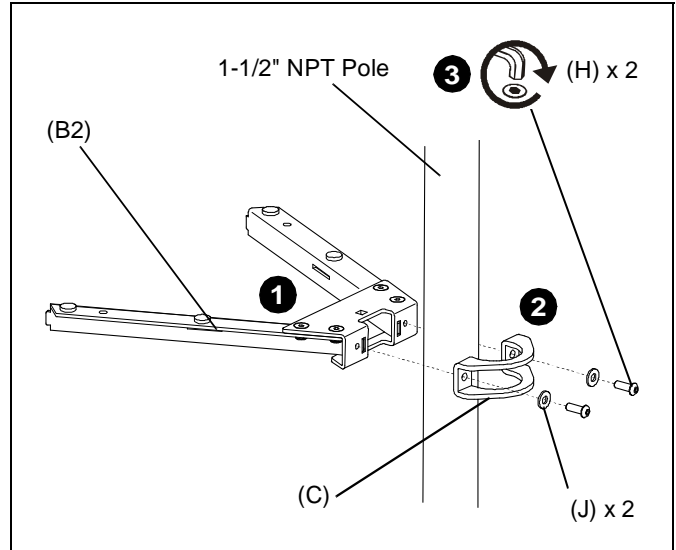

Figure 2
2. Align pole mount bracket (C) with shelf base (B2).
3. Secure pole mount bracket (C) to shelf base (B2) using two 1/4" flat washers (J) and two 1/4-20 x 3/4" button head cap screws (H). (See Figure 2)